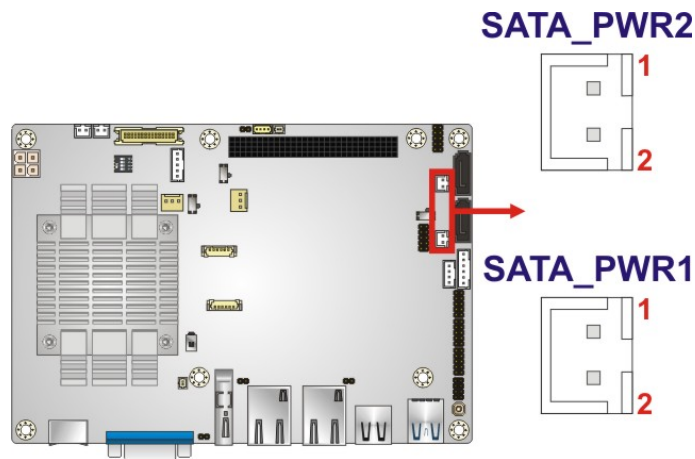

Figure 3-24: SATA Power Connector Locations
**CN Location:** See Figure 3-24